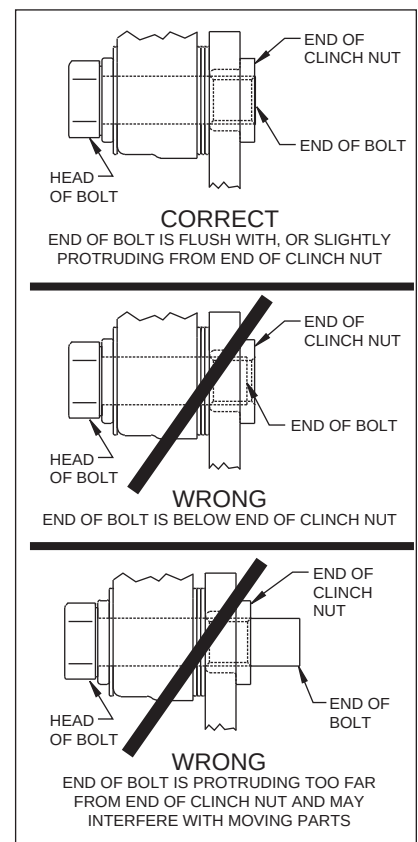

Figure 5.
•Install the dust cap (18) onto the hub (7). Friction created by the o-ring (17) on the dust cap (18) keeps it from unscrewing. The O.D. of the existing spindle washer may be larger than the I.D. of the dust cap (18) which may allow the washer to contact the dust cap (18). Use the spindle washer (15) supplied with the kit instead of the stock washer.
•**NOTE:** Please reference the caution statement at the beginning of the assembly instructions. Mount the caliper (19) onto the caliper bracket (1) using two bolts (21) and two washers (20). Finger tighten. View the rotor (11) through the top of the caliper (19). The rotor (11) should be aligned in the center of the caliper (19). If not, loosen the two bolts (21) and adjust the caliper (19) by using 0.035 inch thick shim washers (22). The shim washers (22) should be placed between the caliper (19) and the caliper mounting bracket (1). Finger tighten and recheck alignment. Add as many shim washers (22) as necessary to achieve the correct alignment.
NOTE: The end of the bolt must be flush with or slightly protruding from the head of the clinch nut. See Figure 5. Place spare shims (22) between washer and caliper mounting ear to achieve the proper mounting fastener configuration. Always use the same amount of shims on both the top and bottom caliper mounting bolts (21). Loosen the two bolts (21) and apply red *Loctite*® 271 to the bolt threads (21) and torque to 40 ft-lb. Caliper mount bolts may be safety wired for additional security.
•Install the disc brake pads (23) into the caliper (19). Secure the disc brake pads to the caliper utilizing cotter pin (24).